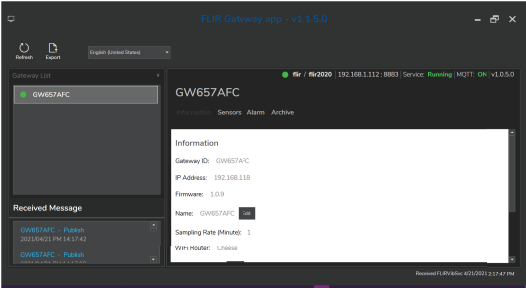

Figure 8.5 Windows PC app opening screen.
1. Open the Windows app on your PC. The opening screen is shown in Figure 8.5 above (shown with the Information tab selected).